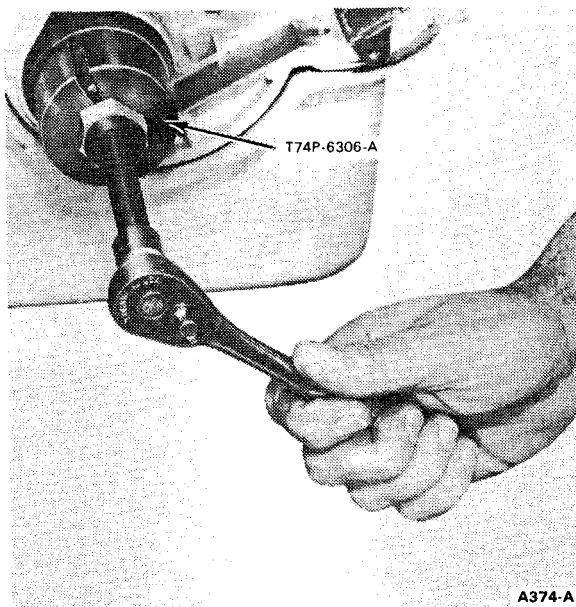

FIG. 44 Removing Crankshaft Sprocket
3. Remove the crankshaft sprocket with tool T74P6306-A, (Fig 44).